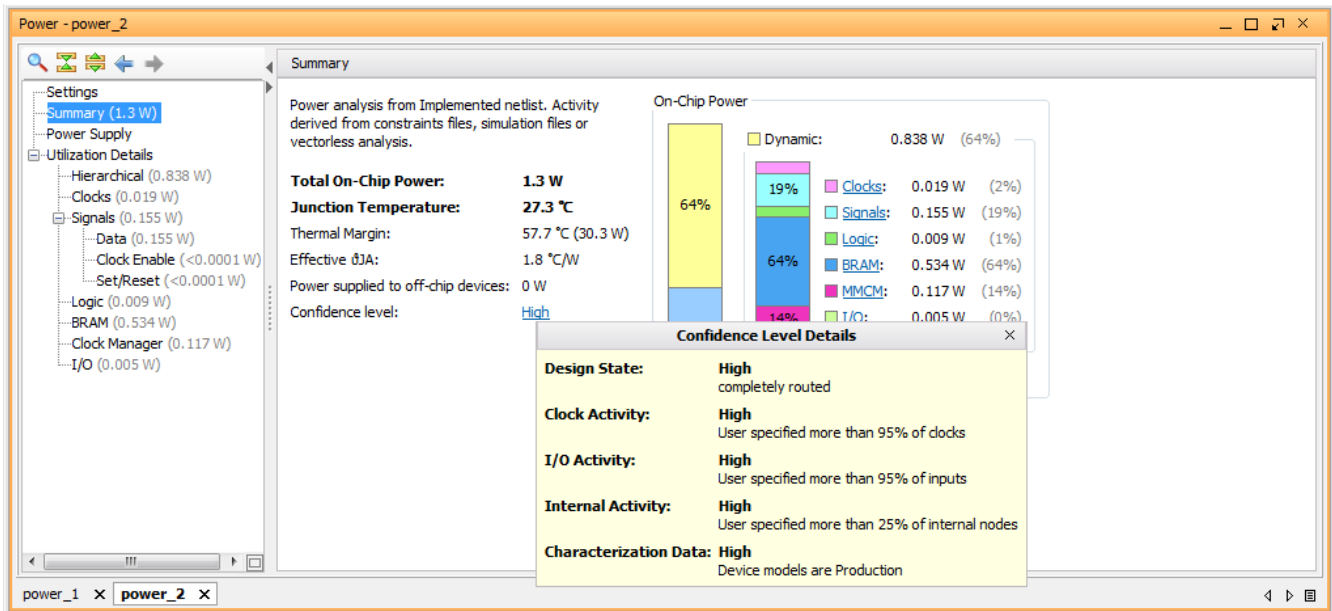

Figure 39: Confidence Level for Power Analysis with SAIF Input (power_2)
- In the **Summary** view of the **power_2** report (the report generated by the analysis for which you specified a SAIF file as input), click on the **Confidence level (High)** in Figure 39.